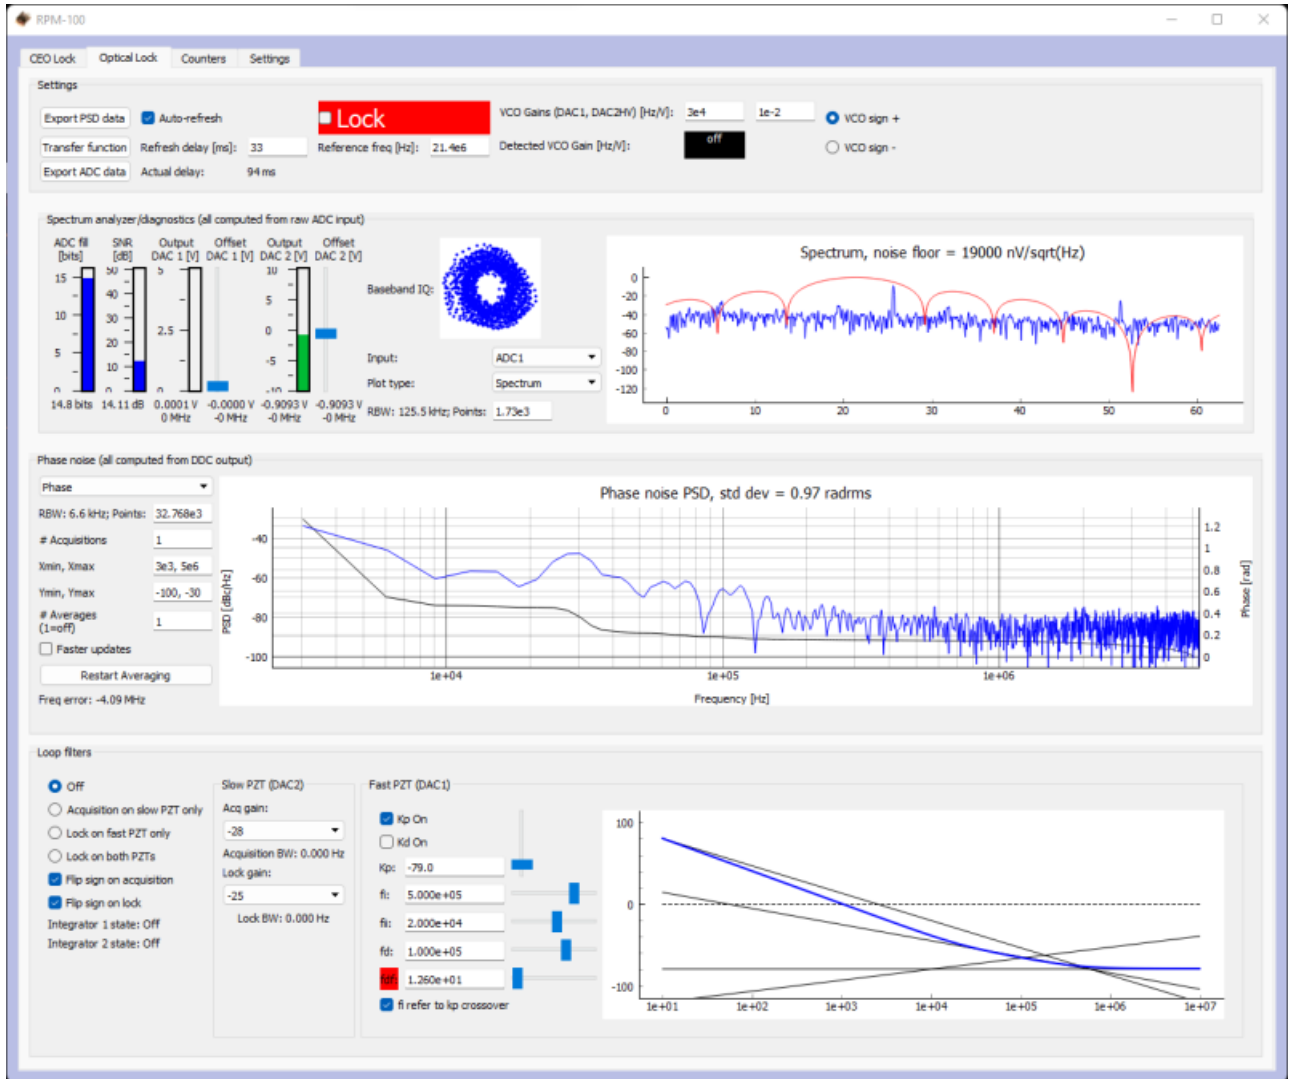

Fig. 11: Centerig  $f_{\text{opt}}$  on reference frequency (Baseband IQ optimization)
1. Navigate to the "Optical Lock" window. Center the beat note near the reference frequency: adjust the "Offset DAC 1" slider (or your reference laser frequency) until you see a circular Baseband IQ diagram (figure 11).